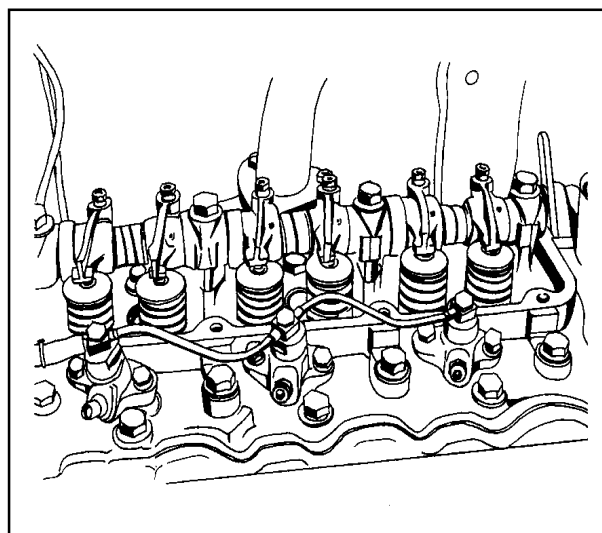

Figure 7
9. Disconnect the ventilation tube from the rocker cover. Remove the bolts that attach the rocker arm cover to the cylinder head and remove the rocker arm cover and gasket. Figure 7.
4. Position the rocker shaft assembly on the cylinder head, the long cylinder head bolts and washers in the respective holes. Refer to Figure 7. Make sure that the ball ends of the rocker arm adjusting screws are seated in the cupped ends of the push rods.